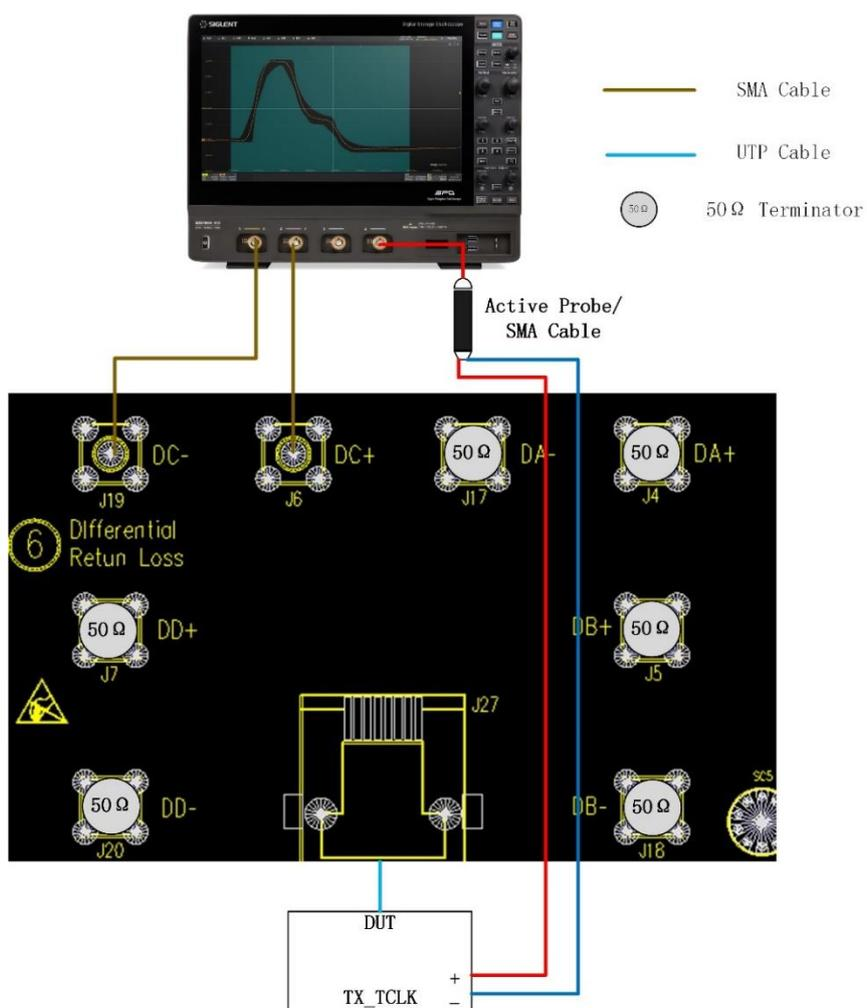

Figure 9-2 Transmitter distortion tests with TX_TCLK and without disturber by using Section ⑥ on the test fixture
The connection with section ⑥ on the test fixture is shown as Figure 9-2, the test step is as follows:
- (1) Using a short UTP cable to connect the DUT to the J27 connector on section ⑥ of the test fixture.
- (2) According to the pair being tested, using two SMA cables with equal length to connect the corresponding test points {DA(J17,J4), DB(J5, J18), DC(J6, J19), DD(J7, J20)} on section ⑥ of test fixture to two input channels of the oscilloscope.
- (3) Connect other unused test points on section ⑥ of the test fixture to 50Ω terminators.
- (4) Connect the DUT's TX_TCLK to one input channel of the oscilloscope by using an active probe or a SMA cable.